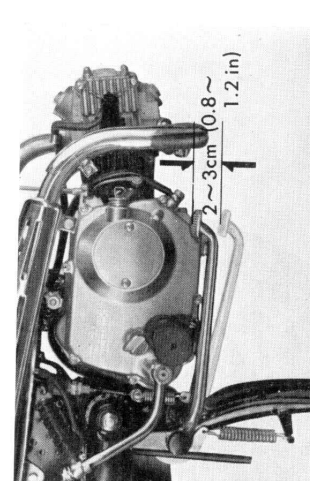

Figure 6-37. Free play of brake pedal
- a. The free play of the brake pedal, that is the distance between the normal attitude and the point where the brake starts to take hold should be 2 ~ 3cm. (0.78 ~ 1.12 in). (Fig. 6-37)